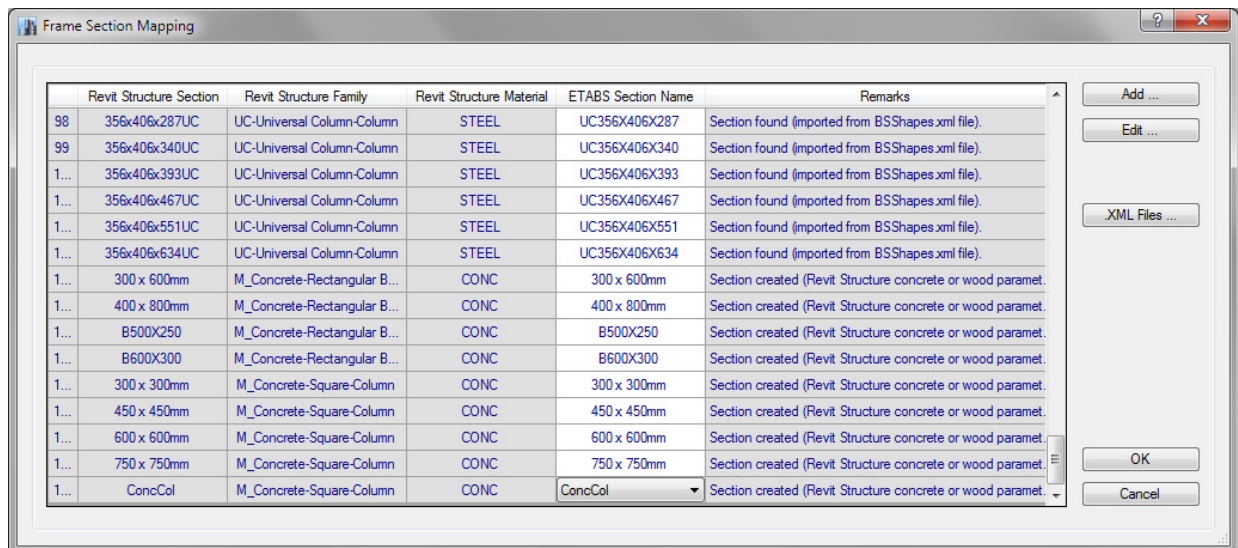

Figure 1: Import of sections from section property files (.XML files)
- 2) Next, ETABS tries to map Revit family sections to a section in the ETABS section property files (.XML) by comparing section names. If ETABS finds a section with a matching name, then that section is used along with all its geometric cross sectional properties. In the absence of an exact name match, ETABS looks for a close match where the Revit name contains the ETABS name. The user is given the option to add/remove or change the search order of the property files during the import into ETABS from the Revit project. In Figure 1, “UC356x406x287” section is loaded from “BSShapes.XML”.